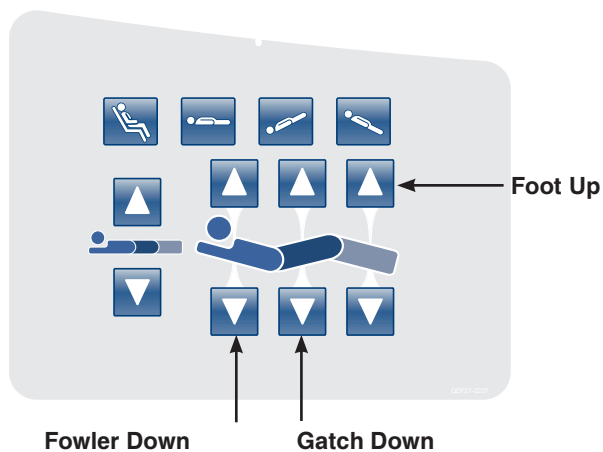

Figure 6: HE Siderail Control Panel - (Right Side Shown)
6. Place the Litter surface to a flat position by pressing simultaneously the **Foot Up**, **Fowler Down** and **Gatch Down** buttons as shown in Figure 6.